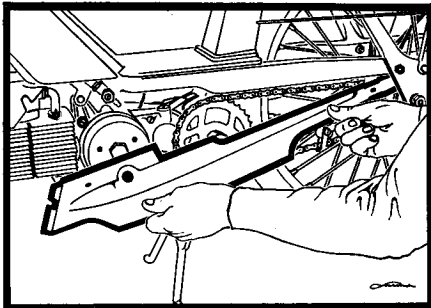

Fig. 6
- a) Remove engine cowlings (see Fig. 6)